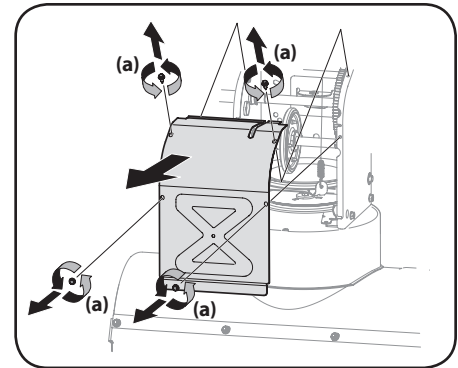

Figure 4-4
3. Remove frame cover from underside of unit by removing self-tapping screws (a) which secure it. Refer to Figure 4-4.